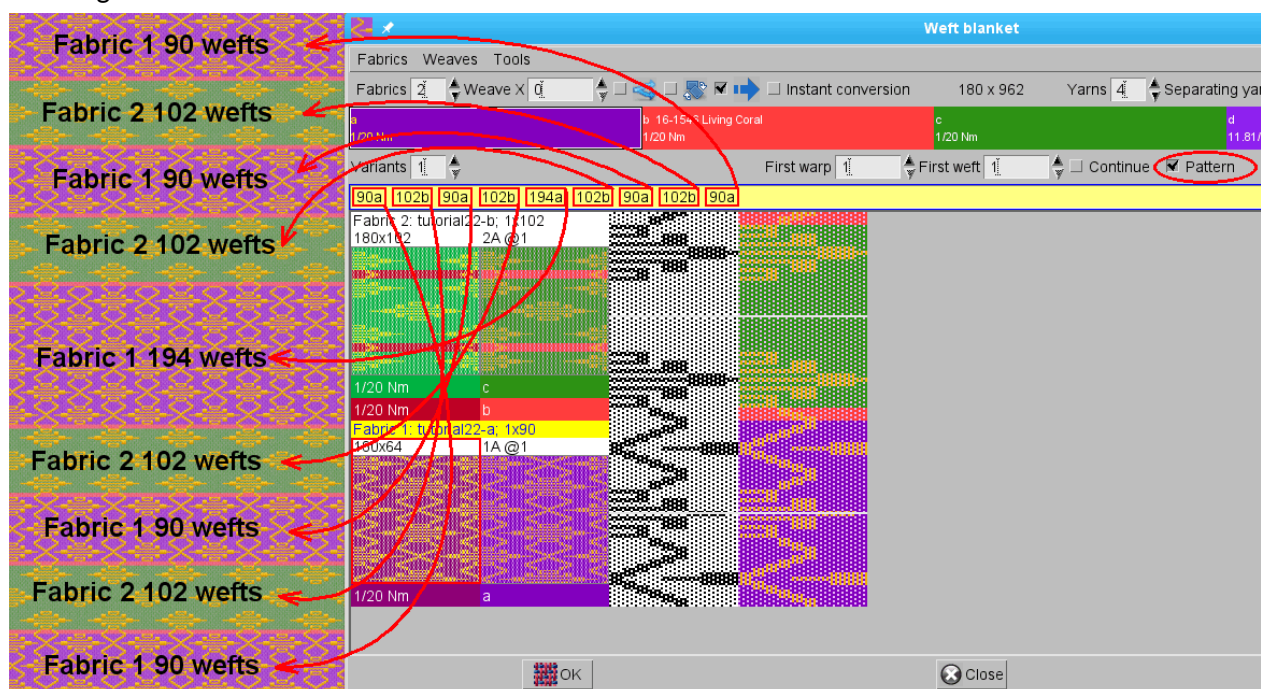

Figure 305: The pattern option in the weft blanket editor: from two input fabrics we have created new design.
- The **Pattern** option lets you write the weft blanket as a weft pattern, of two or more fabrics. It is useful, when you have the same fabric, repeated at different places in the weft blanket, and you would need to load it into the weft blanket editor as many times as fabric occurs in the weft blanket. Figure 305 shows a weft blanket, which is made of two fabrics. In the “normal” editing mode, you would need to load two fabrics in the correct order, the violet fabric 5 times, and the green fabric 4 times, of course in the correct order. But if you switch to the **Pattern** mode, you need to load each fabric only once. In the **Pattern** field you have to write a weft blanket as a pattern: **90a 102b 90a 102b 194a 102b 90a 102b 90a**, where a means first fabric, and b means second fabric. Numbers beside letters mean the number of wefts from each fabric. If you need to change the height of a particular fabric band, just change the number of wefts, click **OK**, and you have a new design.